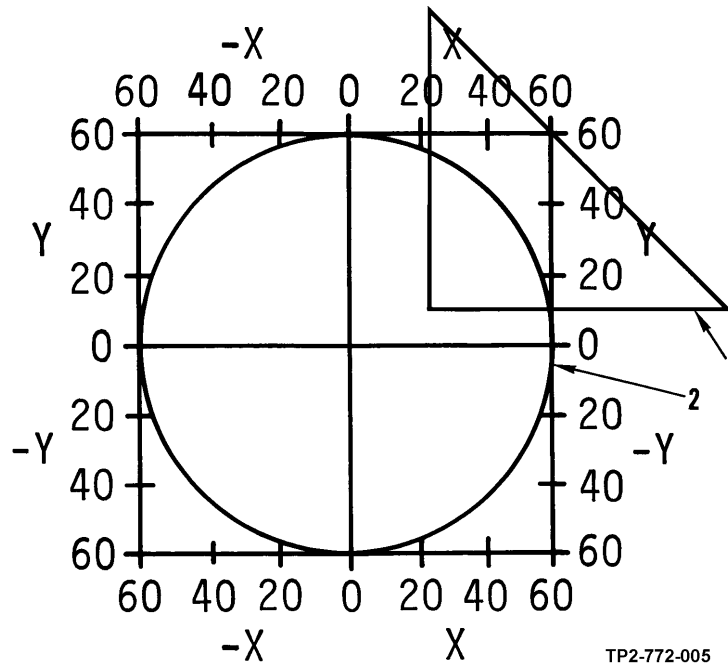

Figure 3-4. X and Y Displacement Measurement Example
- (2) Looking through eyepiece, determine amount of boresight displacement by comparing target position (1, figure 3-4) to numbers on X and Y scales around reticle (2).
- A sample target position is shown in figure 3-4.
(3) On VDT, type in value of X displacement.
(4) Press RETURN key.
(5) Type in value of Y displacement.
(6) Press RETURN key.